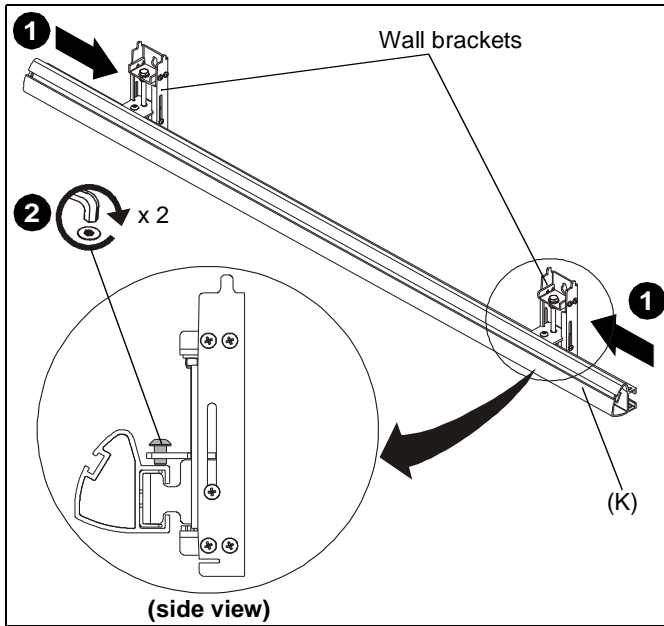

Figure 4
1. Slide wall brackets along wall assembly (K). (See Figure 4)
2. Tighten button head cap screw on each wall bracket to secure wall brackets to wall assembly. (See Figure 4)